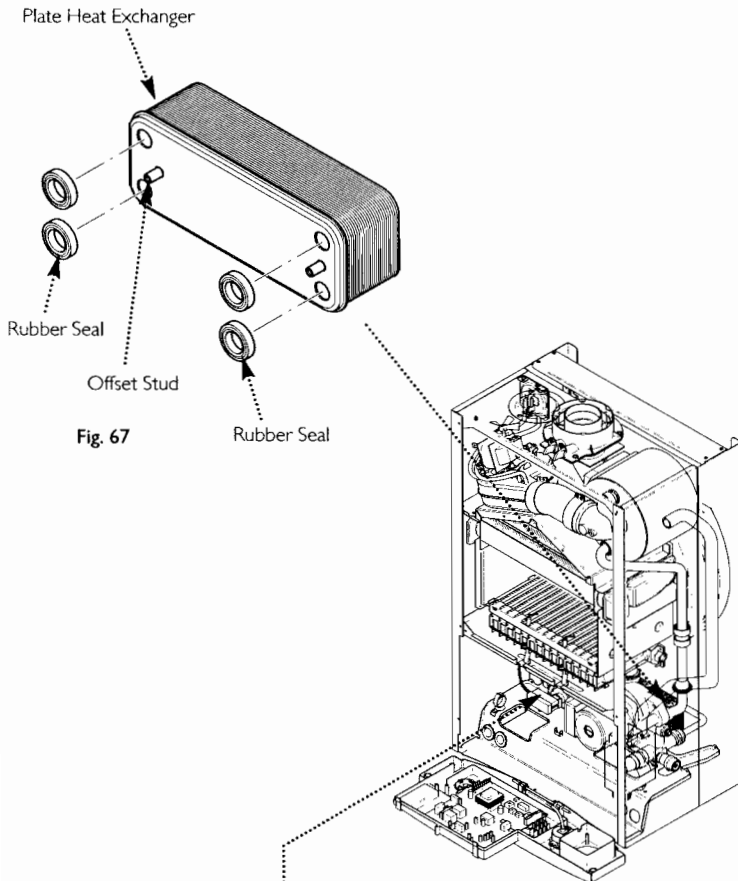

Fig. 67
12.21 Plate Heat Exchanger (Fig. 67)